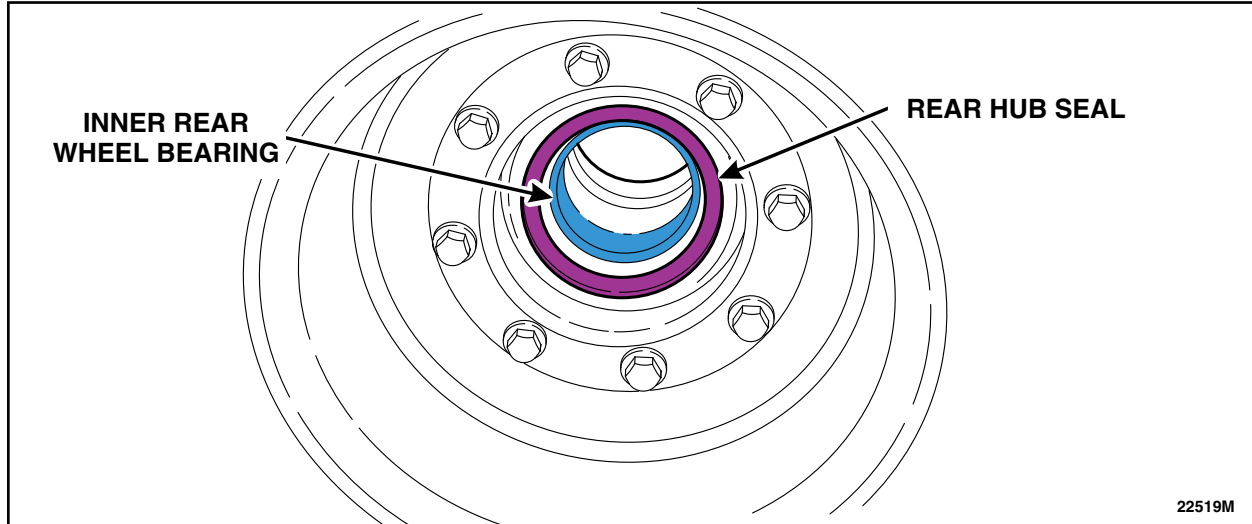

FIGURE 10
10. On the wheel hub and rotor assembly that **PASSED** inspection, remove the rear hub seal and inner rear wheel bearing. Discard the rear hub seal. See Figure 10.